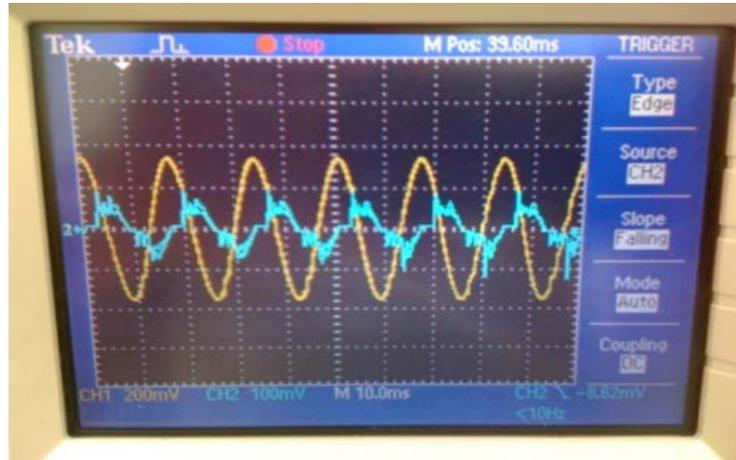
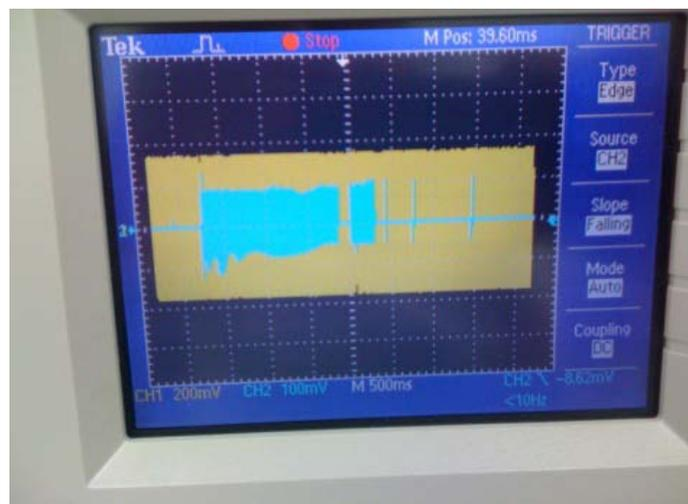

Fig. 2 Screen shot of the initial 100 milliseconds of recharging of 250 Watt Sec strobe/ flash unit showing pulsing current with very high initial peaks
Fig. 3 Screen shot for 5 Sec to show complete recharging of 250 Watt Sec strobe / flash unit
(one pulse every ½ cycle of the 60 Hz sine wave). The peak value of the current pulses is extremely high in the first 100 milliseconds and tapers off to almost zero in around 2 to 3 seconds after the capacitors are fully charged (Please see Fig. 3 below). **Hence, during the initial 100 milliseconds or so, the RMS power drawn for charging the capacitors can reach approximately 4 times the Watt Sec rating of the strobe / flash (Please the explanation under Fig. 2 below).**
- 10 milliseconds for screen shot of initial 100 milliseconds shown in Fig. 2 below
- 500 milliseconds for screen shot of 5 sec shown at Fig. 3 below